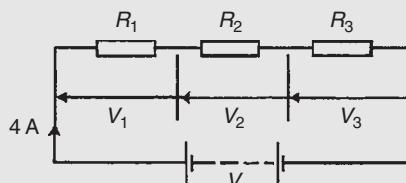

Figure 5.2
**Problem 1.** For the circuit shown in Fig. 5.2, determine (a) the battery voltage  $V$ , (b) the total resistance of the circuit, and (c) the values of resistors  $R_1$ ,  $R_2$  and  $R_3$ , given that the p.d.'s across  $R_1$ ,  $R_2$  and  $R_3$  are 5 V, 2 V and 6 V respectively.